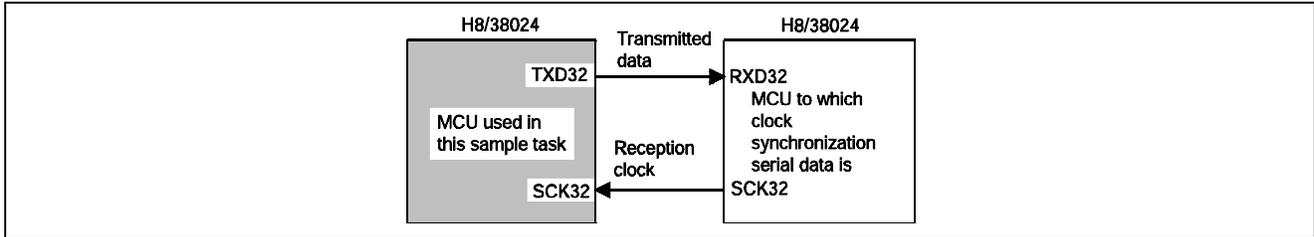

Figure 1 Clock Synchronization Serial Data Slave Transmission with the H8/38024
- Clock synchronization serial data slave transmission is performed using SCI3 of the H8/38024, as shown in figure 1.